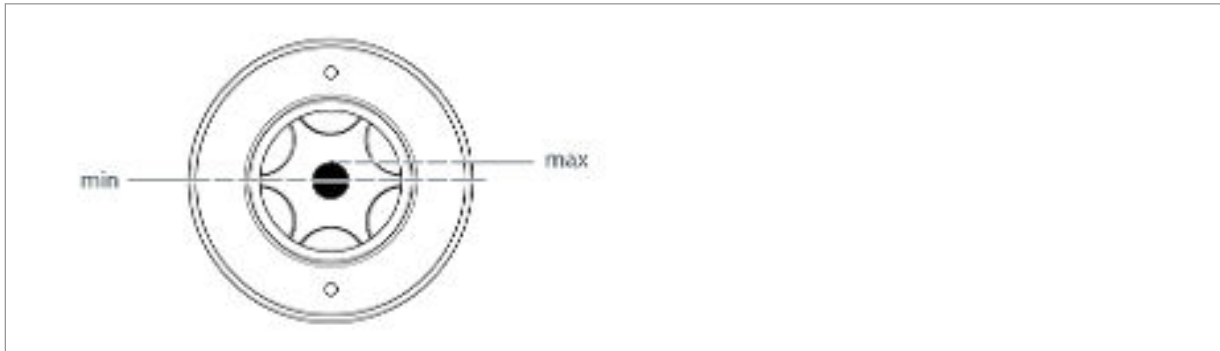

Fig. 26: Oil sight glass on bearing casing
4. ➔ Fill bearing casing with lubricating oil until the oil level in the oil sight glass is within the specified limits (Fig. 26).